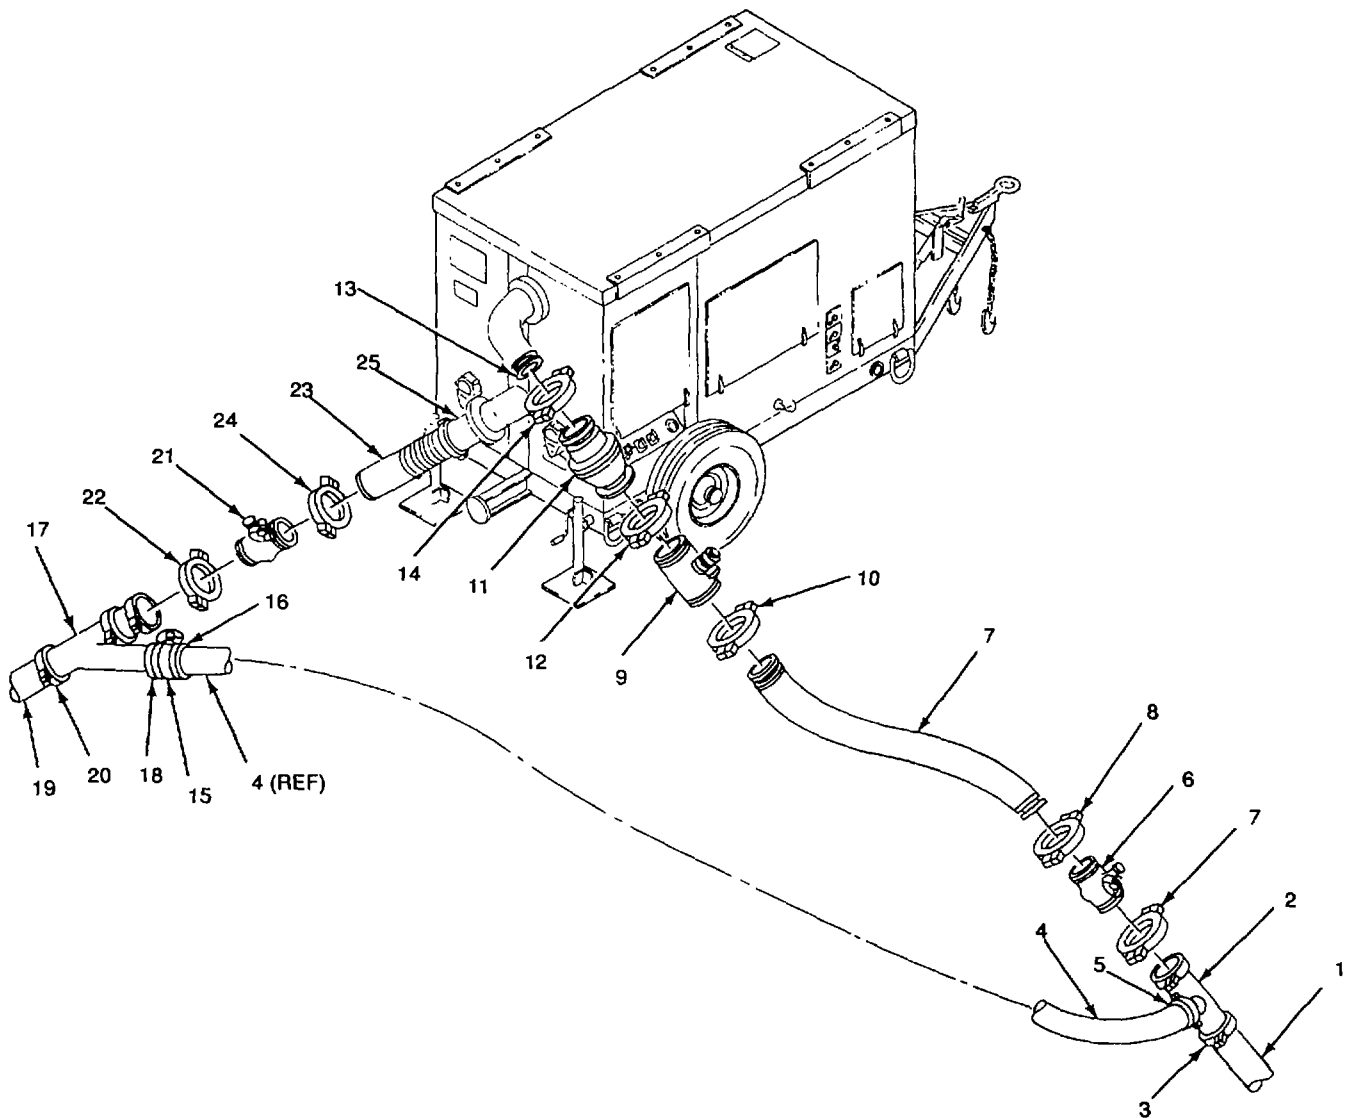

Figure 2-41. Disassemble Boost Pumping Station
- (3) Clean road crossing guards and transport them to lead pumping installation site for final packing.
- f. Disassemble Boost Pumping Station. Perform the following (Figure 2-41):
- (1) Disconnect 10-mile segment collapsible hose assembly (1, Figure 2-41) from lateral grooved wye-coupling
- (2) by removing 6-inch boltless coupling (3) (para. 2-8.c).